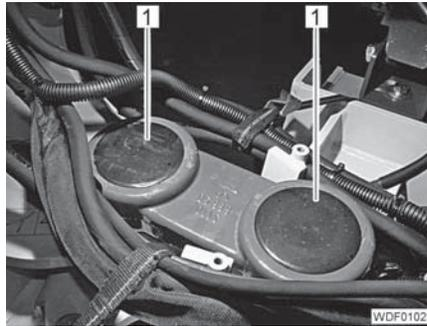

Fig. 288 Protective caps
- Remove the protective caps (Fig. 288,1).